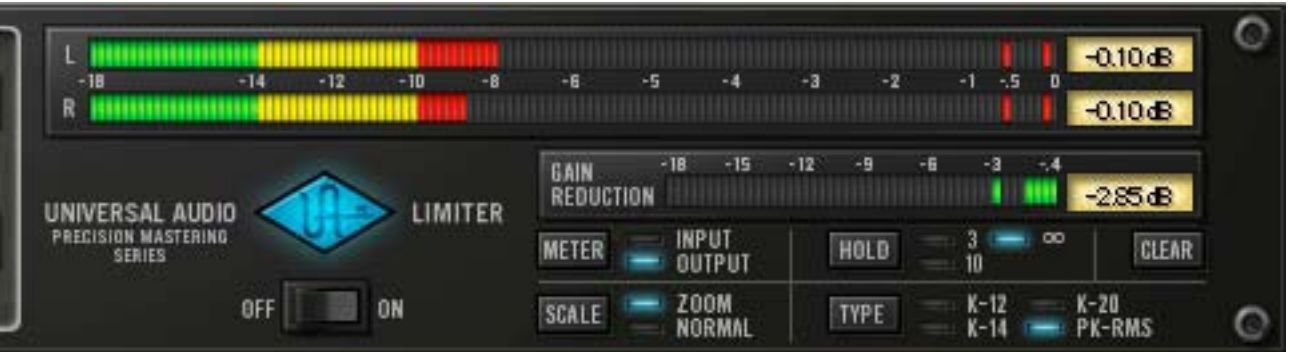

Figure 53. Precision Limiter meter scale in PK-RMS Zoom mode
**Scale** The meter Scale switch increases the resolution of the main stereo level meter (See Figure 53 below). The meter range that is displayed in Normal and Zoom modes is dependent upon the meter Type setting (see “Type” on page 154).